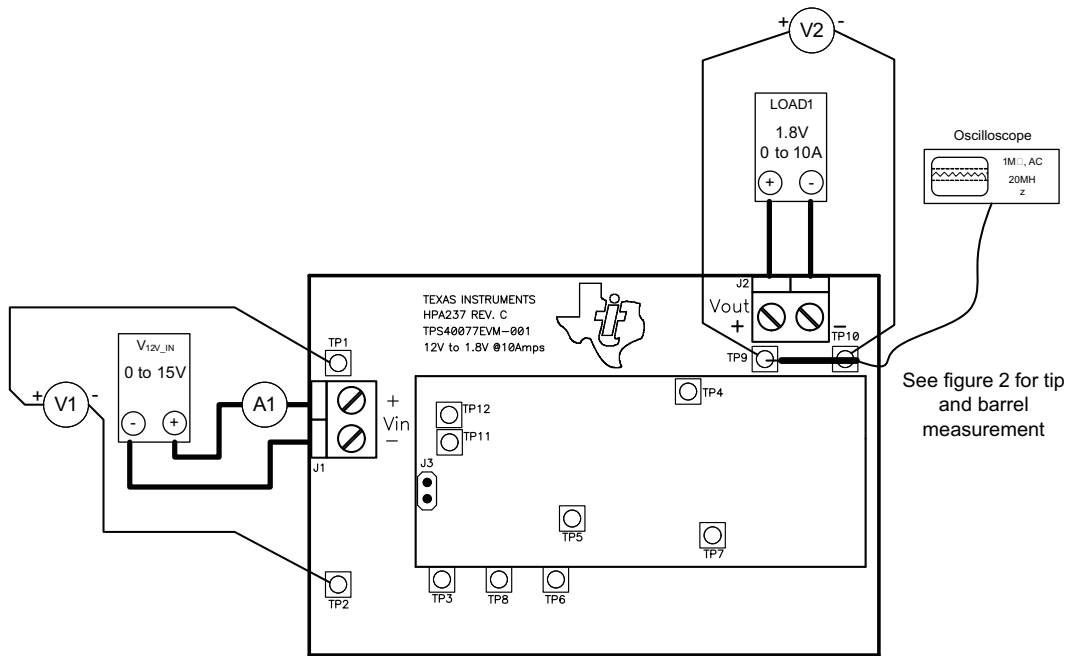

Figure 3. TPS40077EVM-001 Recommended Test Set-Up
The input voltage source ( $V_{12V\_IN}$ ) should be a 0–16 V variable-DC source capable of 5 A DC. Connect  $V_{12V\_IN}$  to J1 as shown in Figure 3.
Shown in Figure 3 is the basic test set up recommended to evaluate the TPS40077EVM-001. Note that although the return for J1 and J2 are the same, the connections should remain separate as shown in Figure 2.
2. Prior to connecting the DC input source,  $V_{12V\_IN}$ , it is advisable to limit the source current from  $V_{12V\_IN}$  to 5.0 A maximum. Make sure  $V_{12V\_IN}$  is initially set to 0 V and connected as shown in Figure 3.
3. Connect an Ammeter A1 as shown in Figure 3.
4. Connect Voltmeter V1 to TP1 and TP2 as shown in Figure 3.
5. Connect LOAD1 to J2 as shown in Figure 3. Set LOAD1 to constant current mode to sink 0 A DC before  $V_{12V\_IN}$  is applied.
6. Connect Voltmeter V2 to Output J2 as shown in Figure 3.